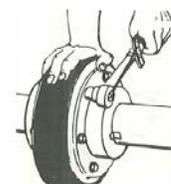

Figure 6
- Hold split of flexible element closed as shown in Figure 6. Tighten (finger tight) one or two screws 180° from split. Using both hands, knead the tire pulling it toward the split. Hold split closed and tighten (finger tight) the next two screws farthest from the split. Repeat the procedure on all remaining clamp ring screws. Use a torque wrench to tighten each clamp ring screw in succession to the torque specified in Table 1. Using a torque wrench, recheck all
- Optional Procedure: Hold split of flexible element closed as shown in Figure 6. Tighten (finger tight) one or two screws 180° from split. Using both hands, knead the tire pulling it toward the split. Hold split closed and tighten (finger tight) the next two screws in a star or cross pattern as shown in Figure 7. Repeat the procedure on all remaining clamp ring screws. Use a torque wrench to tighten each screw to the torque specified in Table 1. Using a torque wrench, recheck all clamp ring screw torque values before coupling operation.